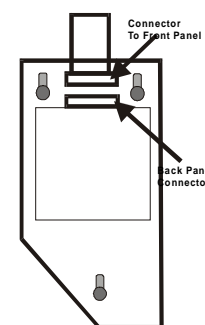

Fig 2
- b. Carefully disconnect the front panel from the connector located on the base (fig.2).
- a. Reconnect the plug-in connector wire into the mating connector mounted on the back panel (fig.2).